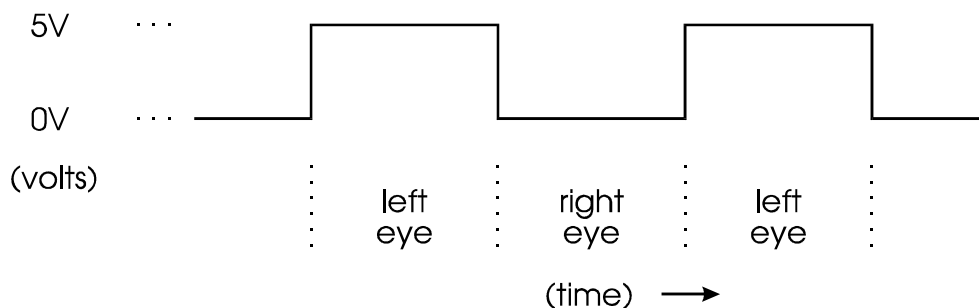

Figure 11. Stereo Drive Signal format.
2. While the display is in stereoscopic mode, the signal should be zero (0) volts during right eye fields, and five (5) volts during left eye fields, see Figure 11. below. This signal should be approximately 60 Hz., so that each eye sees a flicker-free image. Duty cycle of the wave form should be: $50 \pm 3\%$. The vertical synchronization input to the monitor is two times the Stereo Drive Signal (approximately 120 Hz.), so that the left and right eye images are superimposed.
3. While the display is in monoscopic mode, the signal should be at zero (0) volts. This may be used by the stereo viewing hardware to stop separating images, and allow both eyes to always view the monitor. While the monitor is in the monoscopic display mode it's vertical synchronization input should be approximately 60 Hz. Usually during this state the stereo glasses infrared transmitter is inactive, signaling the glasses to switch both lenses to their transparent state.